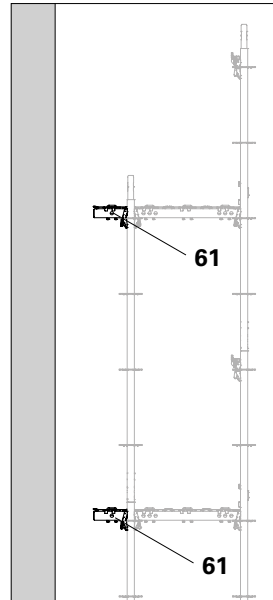

Fig. C1.03
2. Fit Support UC 25* (**61**) or Console Brackets UCB 25 onto the middle frame. (Fig. C1.03)